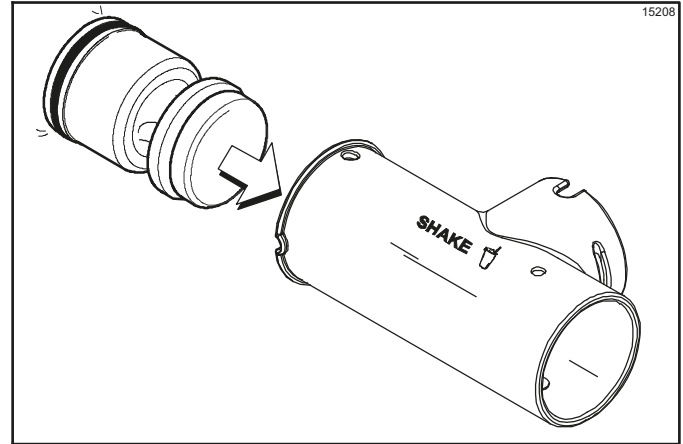

Figure 6-25
4. Insert the piston into the retaining pin hole end of the pump cylinder. (See Figure 6-25.)